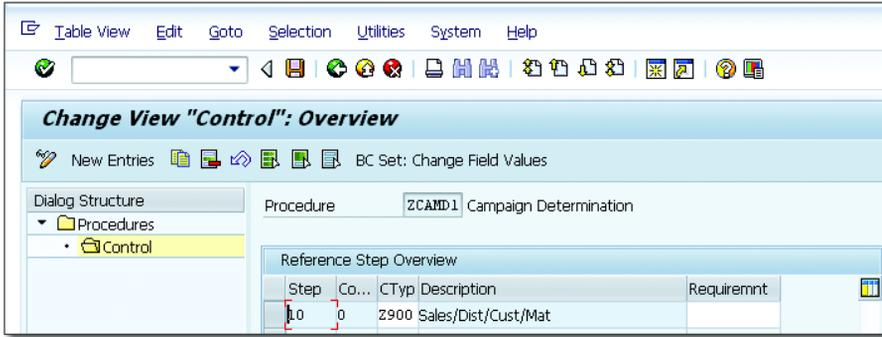

Figure 4.51 Assigning the Condition Type to the Campaign Determination Procedure
- Assign the discount condition type to the pricing procedure used in the sales order so that the discount determination takes place in the sales order (see Figure 4.51).